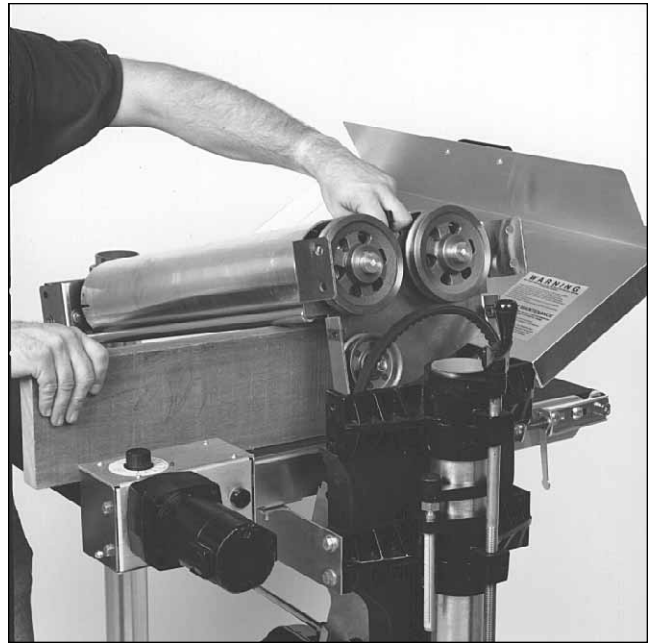

Fig. 39. Supporting drums to remove bearings.
3. Lift the right (inboard) side of drums and place a 2x6 on edge under the drums. Loosen and remove the V-belt pulleys from drum shafts (see Fig. 39). **Important:** Make sure to note the location of the pulleys. Also measure the distance from